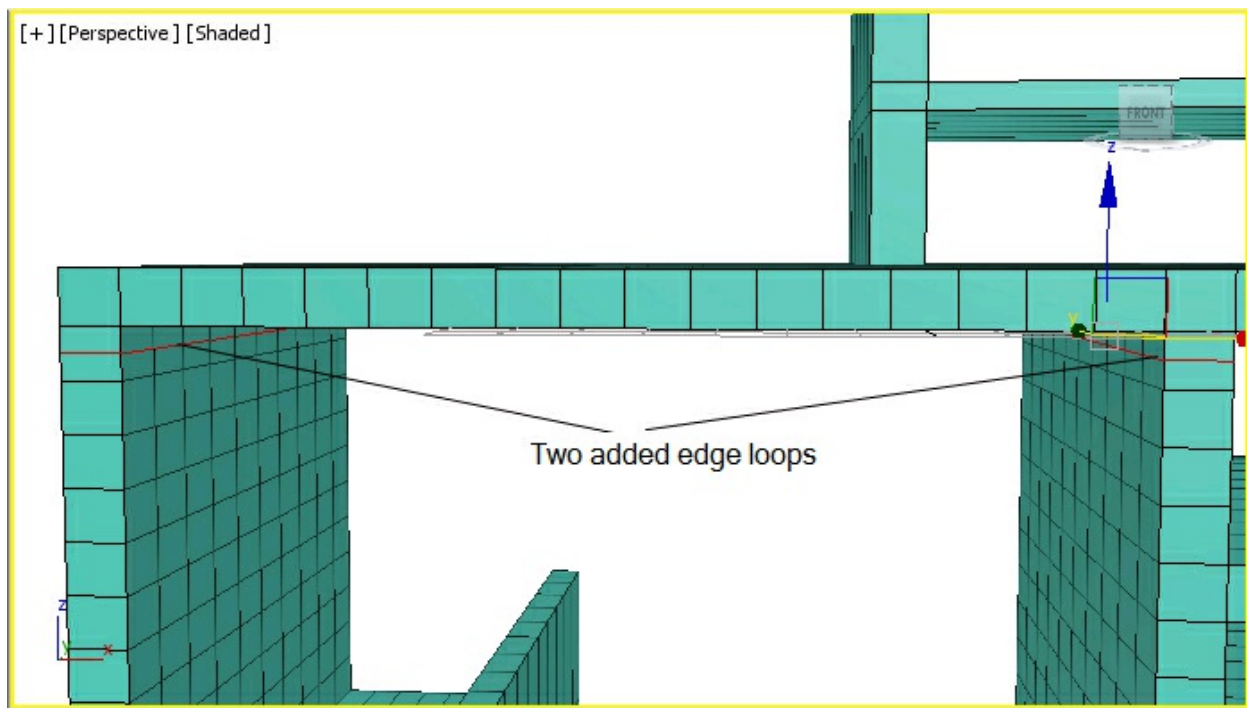

Figure 9-84 Two added edge loops
2. Choose the **Inset Loop** tool from the **Loops** panel; two edge loops are added, as shown in Figure 9-84.